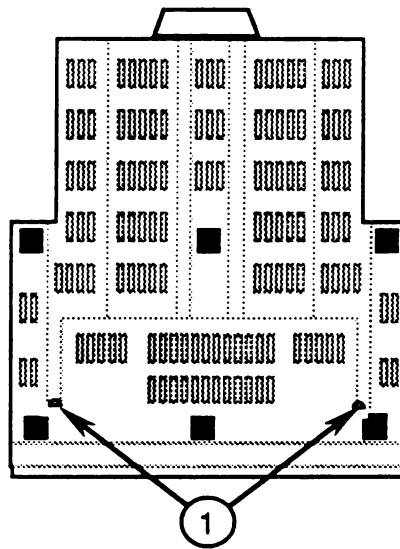

FIGURE 12
4. Replace the two screws (Figure 12, #1) on the bottom of the monitor.